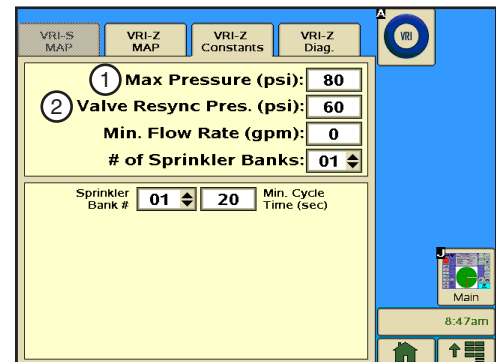

Figure 57-1 1. Maximum Pressure Field
1. Push **Options, VRI, VRI-Z Constants** to display the VRI-Z Constants screen. Refer to Figure 57-1.